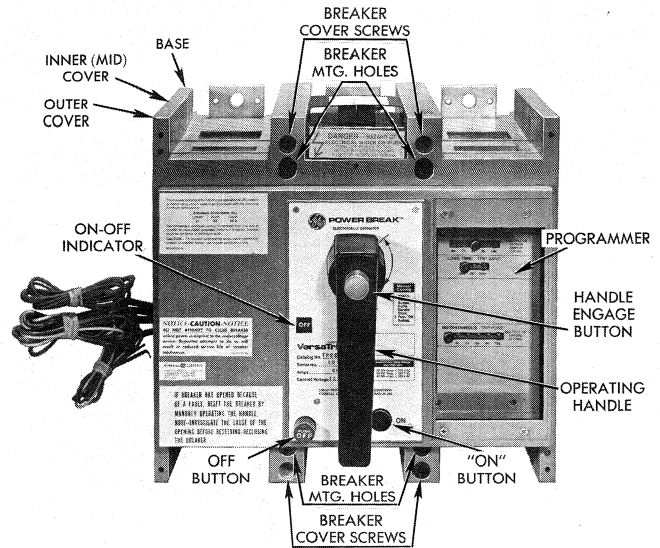

Fig. 6. 600-800A Frame Electrical Breaker
- Remove Four outer cover mounting screws (Fig. 6 & 7).
- a. Position handle at the home position (6 o'clock) on the outer cover. Align outer cover mounting screw holes with those of the inner cover and install four cover mounting screws, see Figs. 6 and 7. Secure with 50 to 60 inch pounds torque.